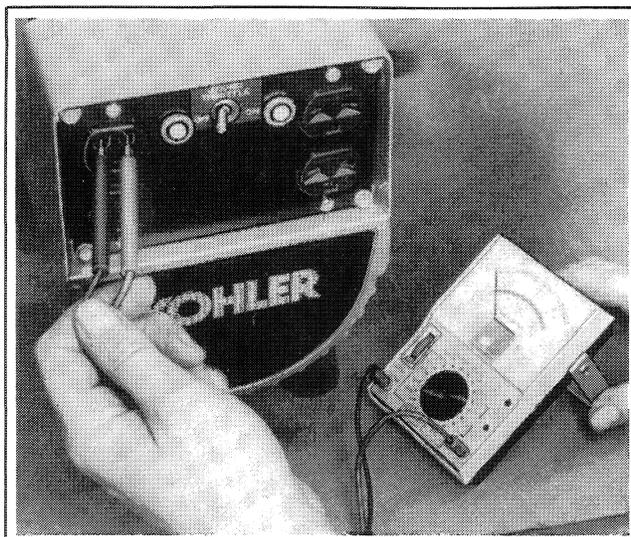

Figure 4-4. Checking for Output
5. Remount the power panel. Start engine and check for rated voltage. Figure 4-4. If there is no AC output, proceed to Separate Field Excitation.